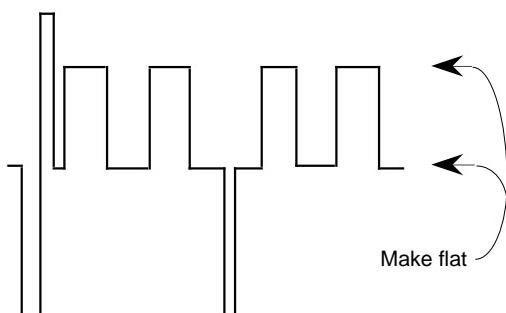

Fig. 5-10
4. As shown in Fig. 5-10, adjust the B-Y PULSE LEVEL data so that the BLUE waveform becomes flat.